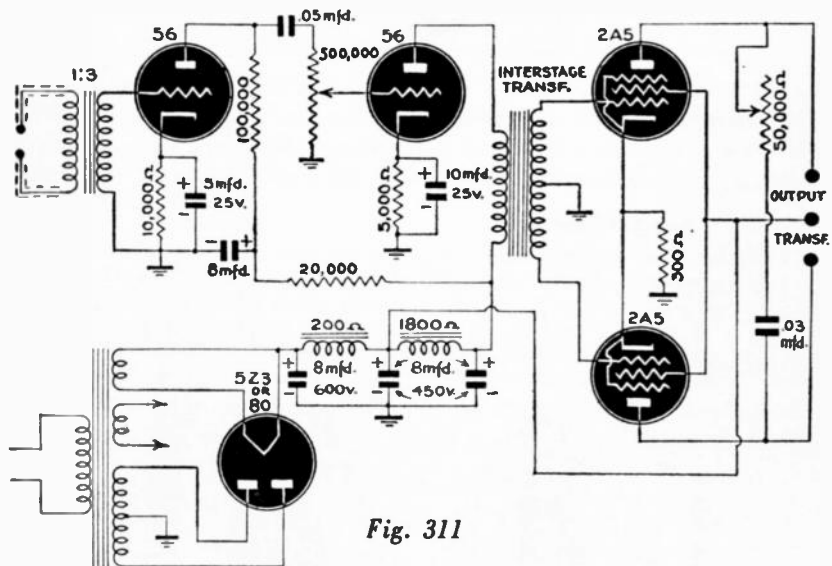

Fig. 311
A. The best amplifier for your apparatus probably will be along the lines of the accompanying diagram Fig 311. With a 400-400-volt winding on your transformer secondary, you should be able to use the 1,800-ohm speaker field as choke and have plenty of voltage on the 2A5's. For a lower transformer voltage, it would be necessary to reverse the position of the chokes, then add a bleeder to draw sufficient current for proper magnetization of the speaker field.